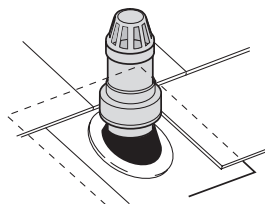

Fig. 19d Steps 6/7
**Step 6** – Slide **131 Weathering Apron** over stack and solvent-weld in position (Fig. 19d)